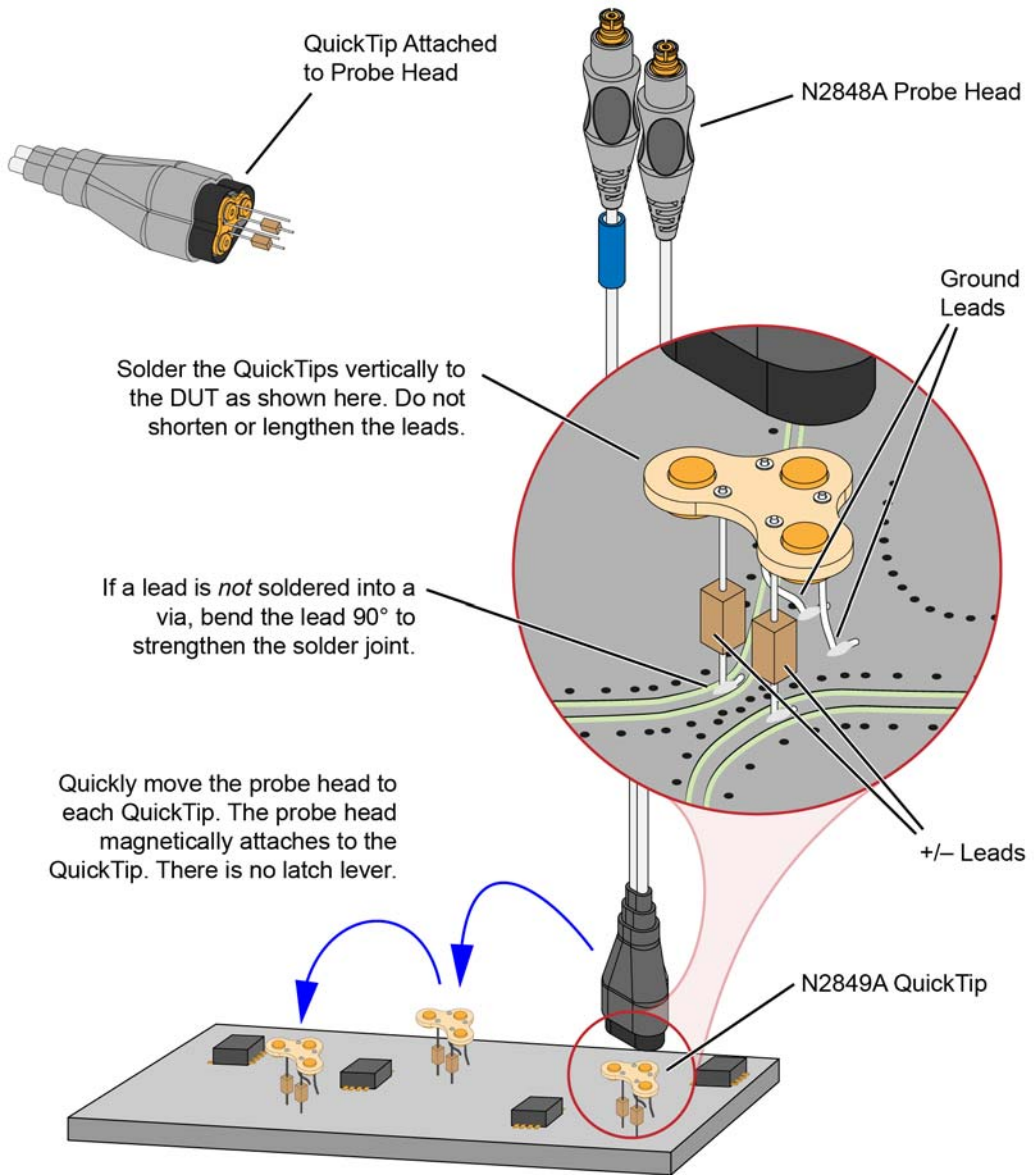

Figure 49 Probing with the N2848A Probe Head and QuickTip
Permanently solder any number of QuickTips to your DUT as shown in Figure 49 on page 72. Because the probe head is magnetically connected (instead of mechanically connected) to the QuickTip, you can effortlessly connect and disconnect to each QuickTip. For best performance, position the QuickTip vertically on the DUT. Because this is an InfiniiMode compatible head, the tip has two signal leads and two ground leads. To learn about InfiniiMode, refer to “To Use InfiniiMode” on page 20. The ground leads have minimal effect on your differential measurements. However, if you are making only differential measurements you can optionally cut off the ground leads or fold them out of the way. Be aware that without the ground leads, the mechanical stability of the QuickTip will be reduced and you will need to stabilize the probe head.
- Orient the QuickTip vertically as shown in Figure 49 on page 72.